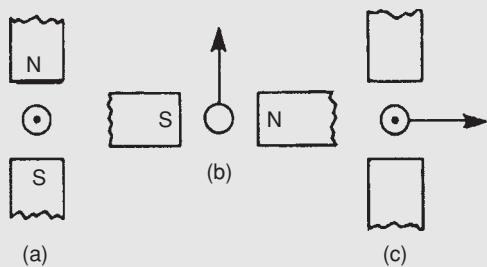
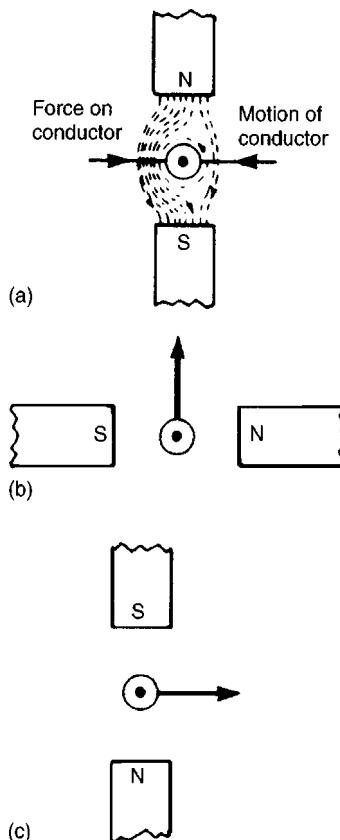

Figure 9.4
Figure 9.5
**Problem 5.** The diagrams shown in Fig. 9.4 represents the generation of e.m.f.'s. Determine (i) the direction in which the conductor has to be moved in Fig. 9.4(a), (ii) the direction of the induced e.m.f. in Fig. 9.4(b), (iii) the polarity of the magnetic system in Fig. 9.4(c)
(i) Using Lenz's law: The field due to the magnet and the field due to the current-carrying conductor are shown in Fig. 9.5(a) and are seen to reinforce to the left of the conductor. Hence the force on the conductor is to the right. However Lenz's law states that the direction of the induced e.m.f. is always such as to oppose the effect producing it. **Thus the conductor will have to be moved to the left.**
i.e. **towards the viewer or out of the paper**, as shown in Fig. 9.5(b)
(iii) The polarity of the magnetic system of Fig. 9.4(c) is shown in Fig. 9.5(c) and is obtained using Fleming's right-hand rule.